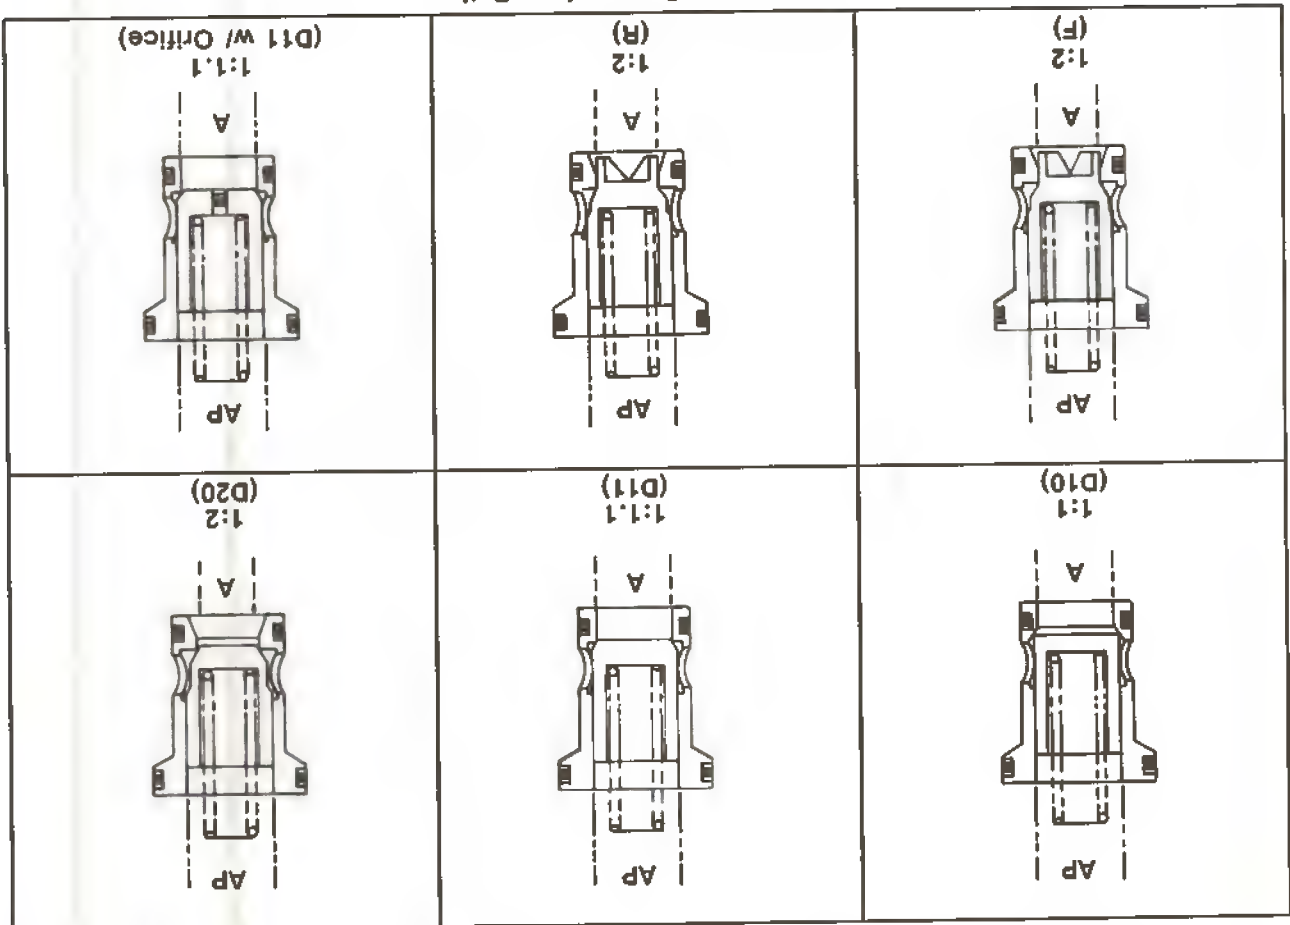

Figure 17. Poppet Area Ratios
2. Determine the area ratio of the poppet. The poppet area ratio is determined by comparing (AP) area at the top of the poppet with the (A) area at the bottom of the poppet. For example, if the area at the top of the poppet is twice the area of the bottom portion of the poppet, the area ratio is 1:2. Three types of area ratios are available; 1:1, 1:1.1 and 1:2. Poppet area ratios are shown in figure 17.